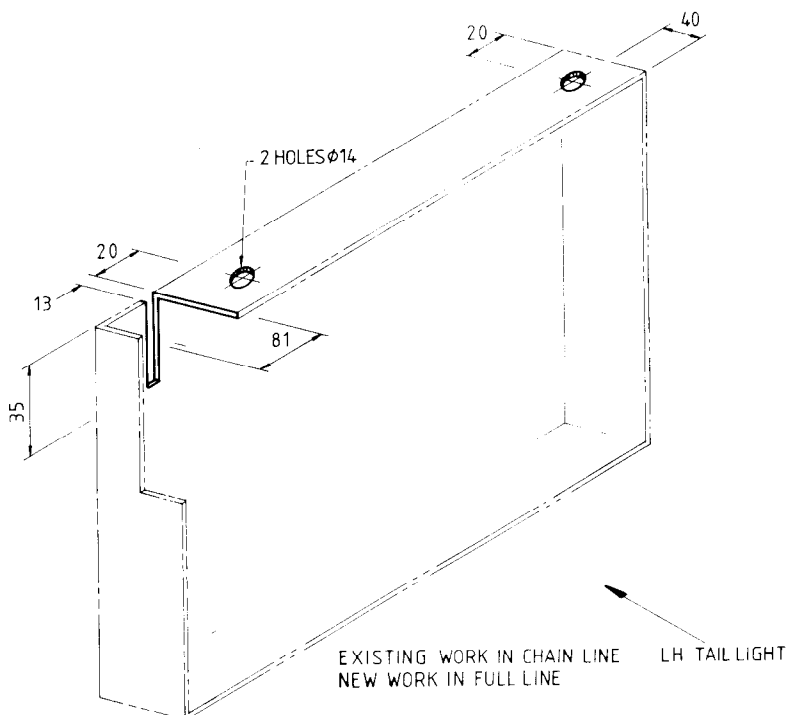
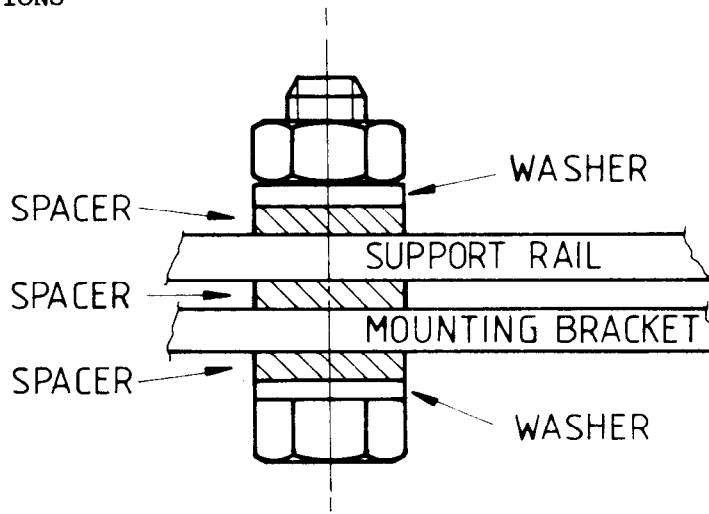

FIG 1 - MODIFIED L/H LIGHT MOUNTING BRACKET
FIG 2 - BRACKET MOUNTING DETAILS
- c. Modify the mounting bracket as shown in Fig 1.
- e. Using item 1 from Table 1 manufacture twelve 40 mm circular spacers with a 12 mm hole in the centre (six for L/H, six for R/H tail-light assembly).
- f. Fit the mounting bracket in the forward position using items 2, 3 and 4 from Table 1, with rubber spacers fitted to the bolts each side of the mounting bracket and on top of each support rail as shown in Fig 2 (tighten the bolts only sufficiently to remove vertical movement of the bracket).